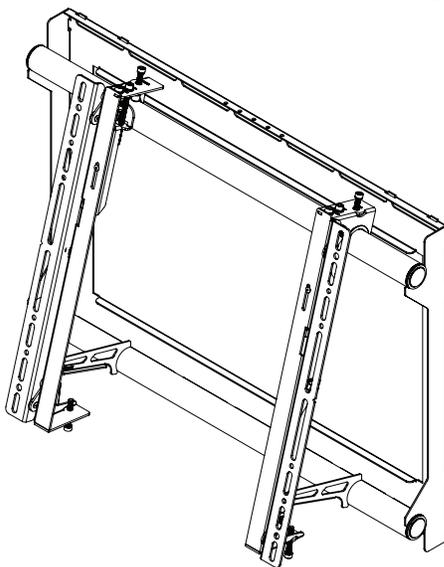

Figure 2
2. Tilt up the bottom of the flat-panel, then set their kickstands against the bottom tubing of the mount (Figures 2).